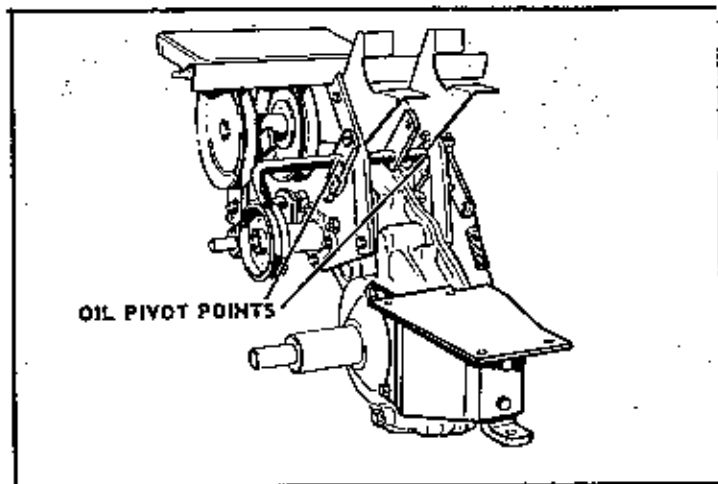
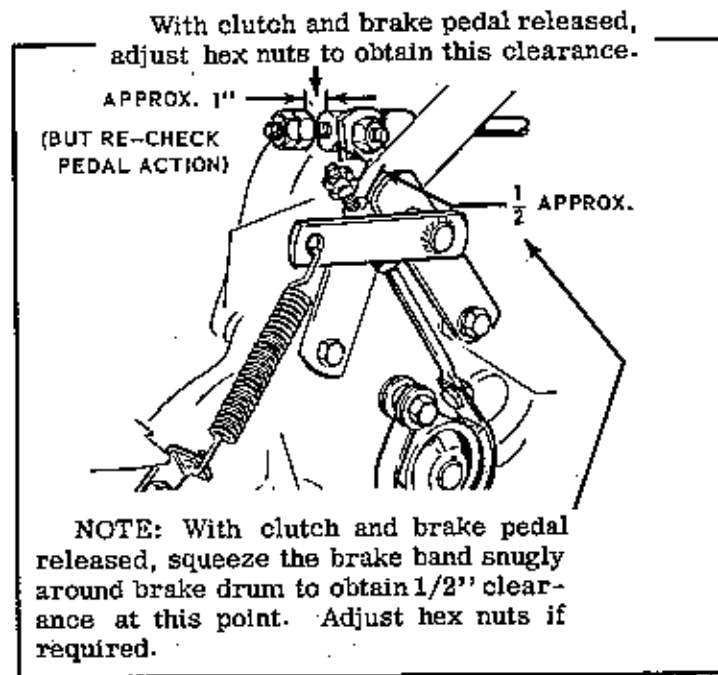

FIGURE 3
FIGURE 4
4. Oil clutch and brake linkage pivot points. (Fig. 3); and check for proper operation. Refer to Fig. 4 for Adjustment Dimensions.